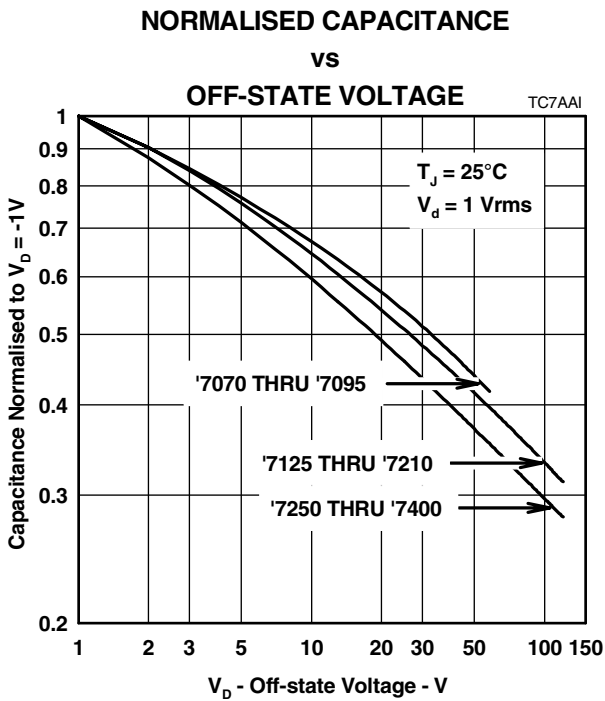
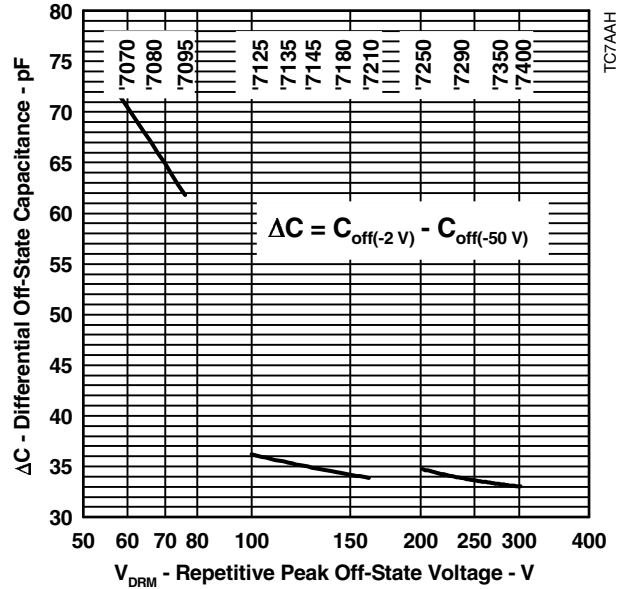

Figure 6.
Figure 7.
The protector characteristic off-state capacitance values are given for d.c. bias voltage,  $V_D$ , values of 0, -1 V, -2 V and -50 V. Where possible values are also given for -100 V. Values for other voltages may be calculated by multiplying the  $V_D = 0$  capacitance value by the factor given in Figure 6. Up to 10 MHz the capacitance is essentially independent of frequency. Above 10 MHz the effective capacitance is strongly dependent on connection inductance. For example, a printed wiring (PW) trace of 10 cm could create a circuit resonance with the device capacitance in the region of 50 MHz. In many applications, the typical conductor bias voltages will be about -2 V and -50 V. Figure 7 shows the differential (line unbalance) capacitance caused by biasing one protector at -2 V and the other at -50 V.